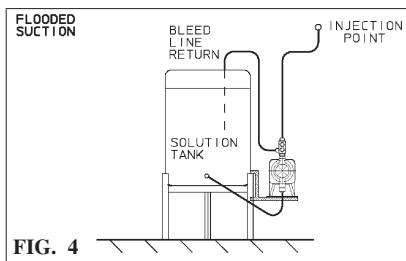

FIG. 4
- Flooded suction mounting (installing the pump at the base of the chemical storage tank, Figure 4) is the most trouble free type of installation and is recommended for very low output requirements. Since the suction tubing is filled with chemical, priming is accomplished quickly and the chance of losing prime is reduced.